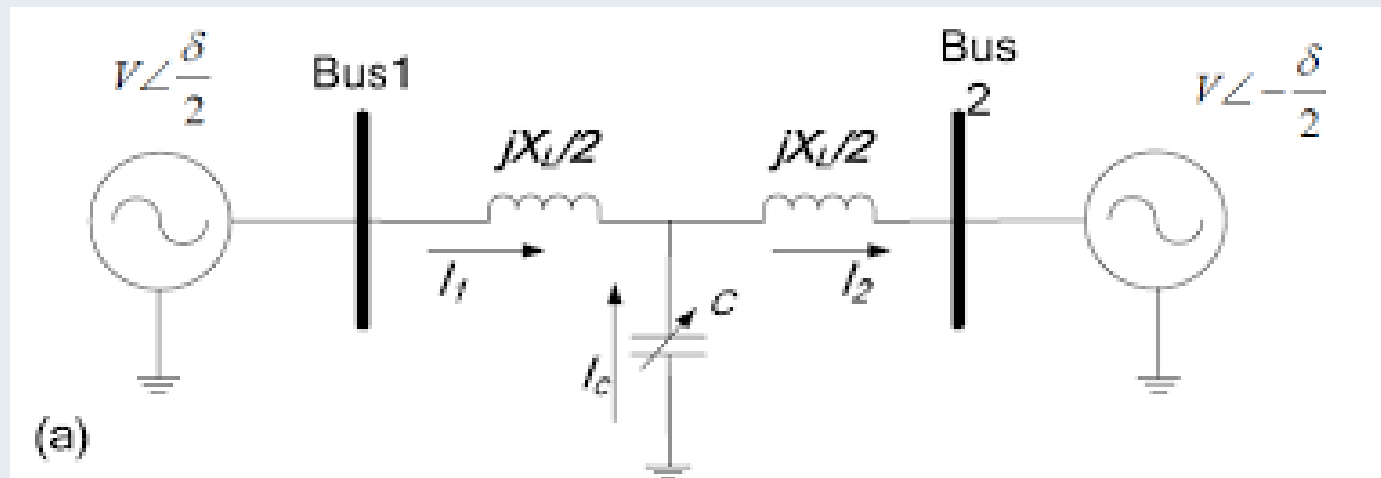

Figure 4. The simplified model of power transmission system.
- The analysis begins with basic principal of power compensation in transmission system [4] as shown in the simplified model shown in Fig.4.
- In Fig.4, the shunt-connected capacitors are used to maintain the voltage levels by compensating the reactive power to transmission lines.
- A simplified model of transmission system with shunt compensation is shown in Fig.4, where a controlled capacitor C is shunt-connected at the midpoint of transmission line.